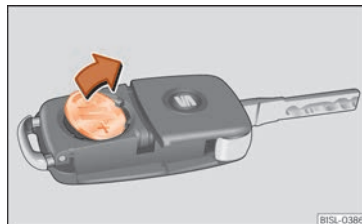

Fig. 88 Vehicle key: remove the battery.
- Extract the battery from the compartment using a suitable thin object » Fig. 88.
- Place the new battery in the compartment as shown » Fig. 88, pressing in the opposite direction to that shown by the arrow » ⓘ.